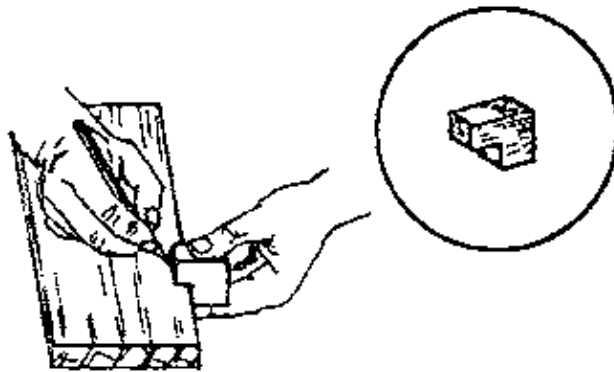

Fig. 3
– Another method of drawing lines parallel to an edge is with a small pencil gauge. This is simply a small, rebated wooden block which is pressed against the edge of the timber and used to guide the pencil, as shown in Fig. 3. The pencil gauge is often used to mark out the position of chamfers.